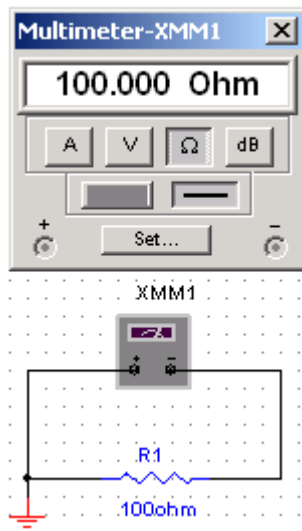

Figure 2: Measuring resistance
1. Build the circuit of Fig. 2 using *Multisim Electronics Workbench*. Connect a **Multimeter** between the terminals of the resistor and set it to read resistance. Select  $R_1=100\Omega$ . Click the **Simulation Switch** to run the analysis. Record the value of resistance  $R_1$  in Table 3's Ohmmeter Reading.